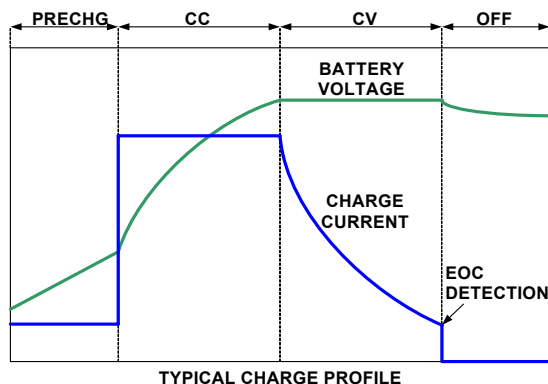

FIGURE 5. TYPICAL CHARGE PROFILE
The ISL9220, ISL9220A is an integrated charger optimized for charging 1-cell and 2-cell Li-ion or Li-polymer batteries. It charges a battery with constant current (CC) and constant voltage (CV) profile. The typical charge profile is illustrated in Figure 5.